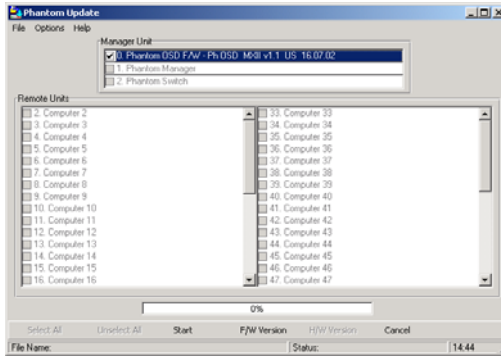

Figure 32 The OSD Manager option
3. In the **Manager Unit** box, check the OSD option. See Figure 32 below.